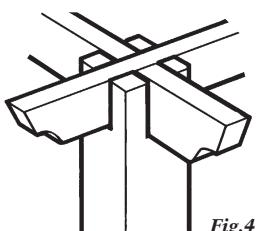

Fig.3
- 2 Then slot the two Rafters (E) across the first rafters to form a square frame at the top of the posts (see Fig.3 left).